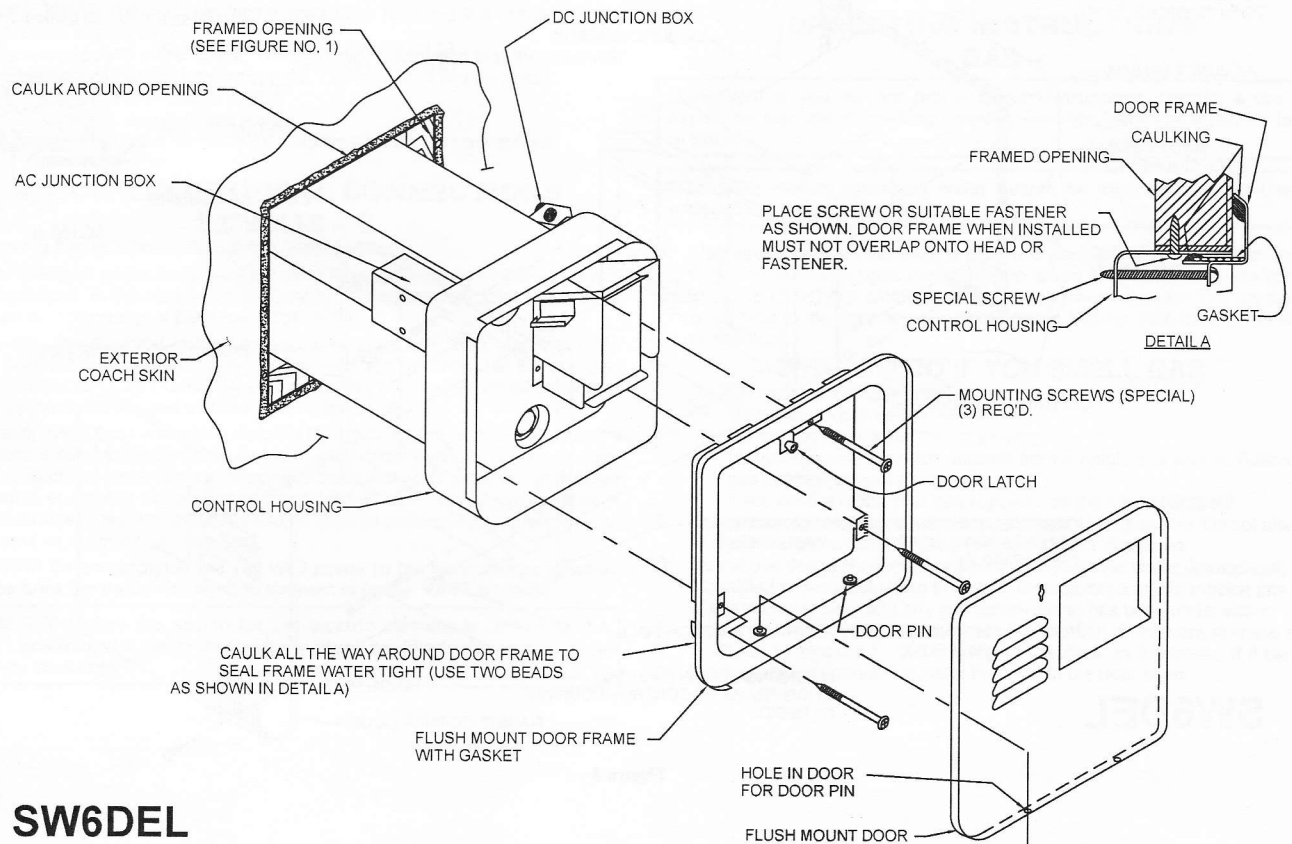
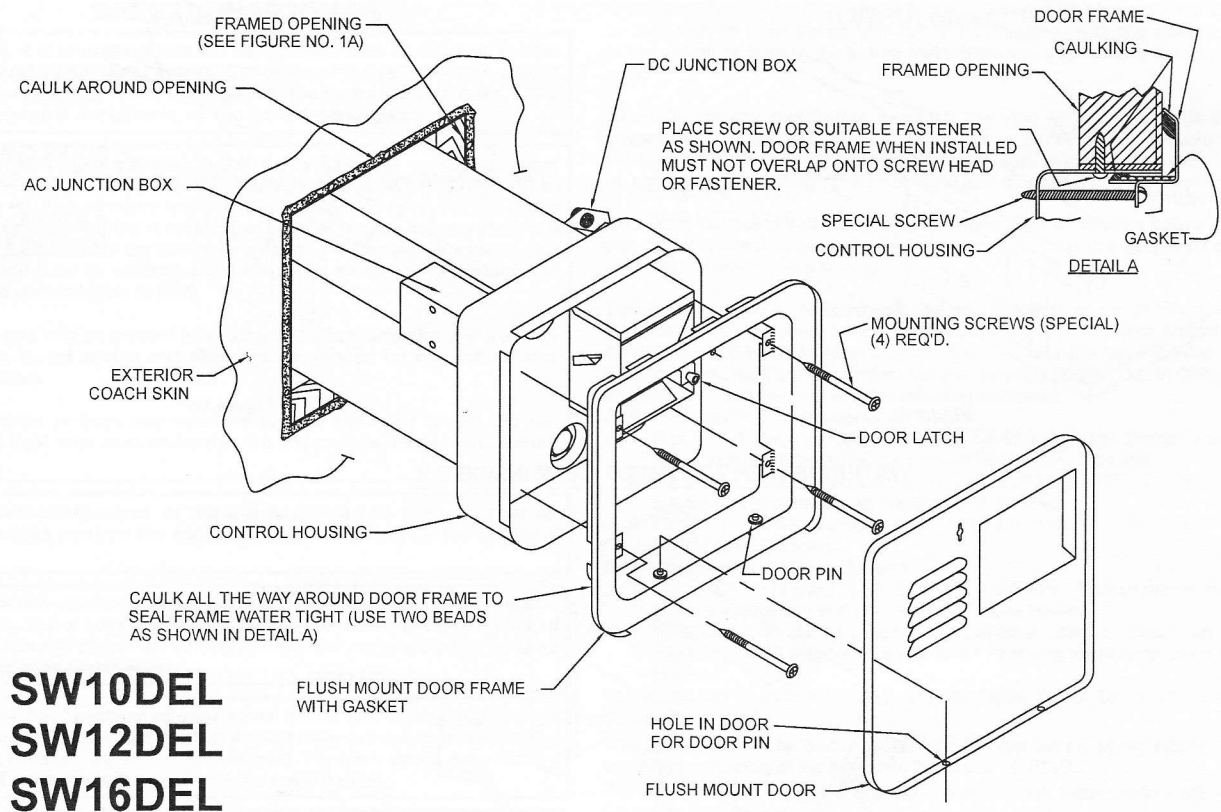

Figure 2
Figure 2A
(See Figure 2 SW6DEL; Figure 2A SW10DEL, SW12DEL, SW16DEL)
- Refer to Figure 2 for location of D.C. junction box on SW6DEL.
- Refer to Figure 2 for location of A.C. junction box.